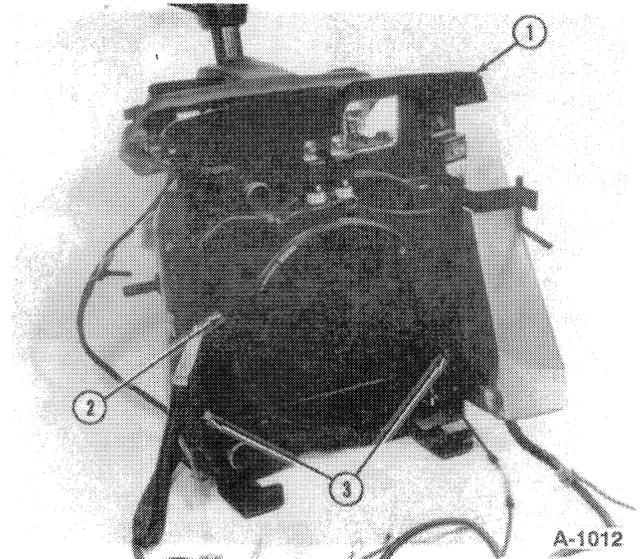

FIGURE 1-18
21. Remove the three air flow baffle mounting screws, and remove the baffle, 1, Figure 1-18.
22. Remove the two fan shroud mounting screws, 3, Figure 1-18.